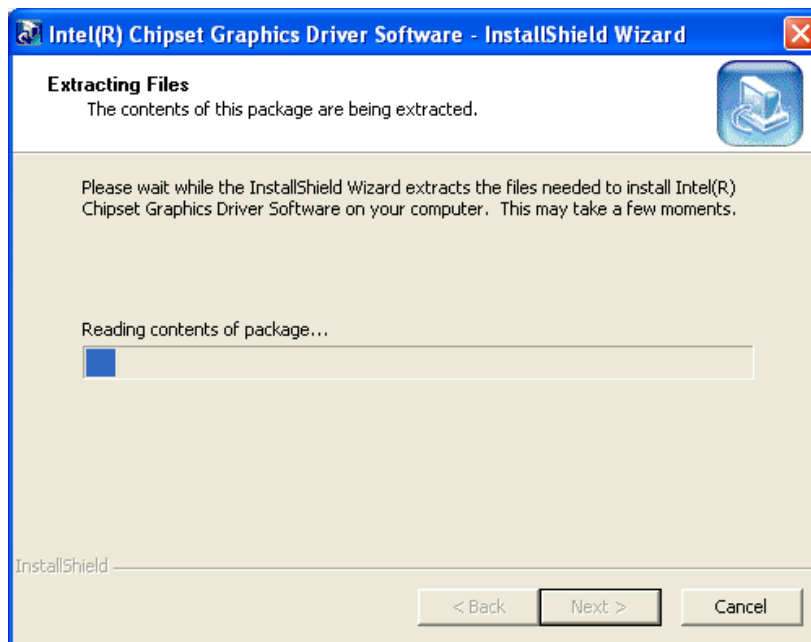

Figure 6-11: VGA Driver Setup Files Extracted
Step 5: The installation files are extracted. See **Figure 6-11**.